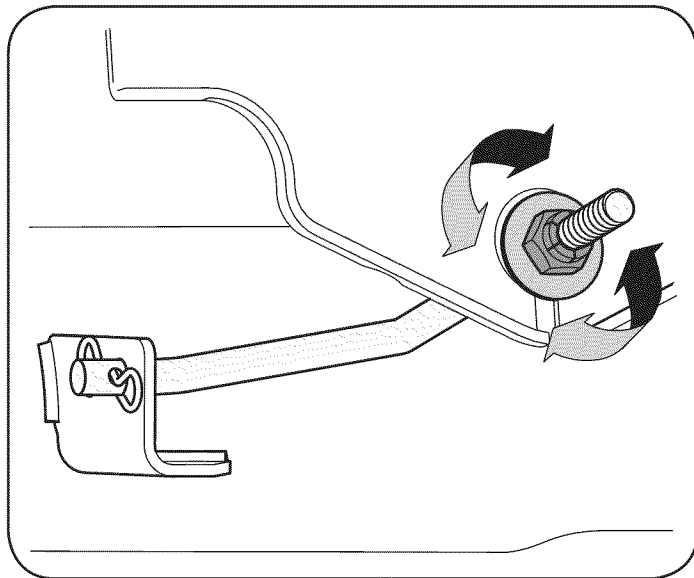

Figure 22
3. Locate the flange lock nut on the front side of the stabilizer bracket. See Figure 22.